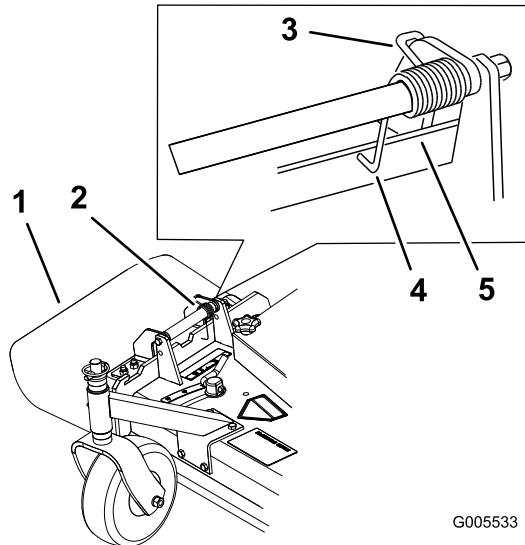

Figure 5
1. Make sure the **L** end of spring is installed behind the deck edge before installing the bolt as shown in Figure 5.
2. Place the **J** hook end of spring around grass deflector (Figure 5).